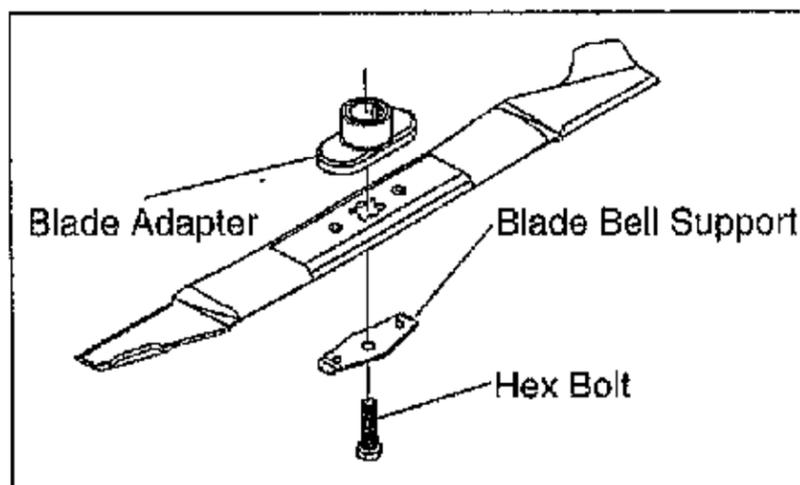

Figure 11
- Remove the bolt and blade bell support which hold the blade and adapter to the engine crankshaft. See Figure 11.